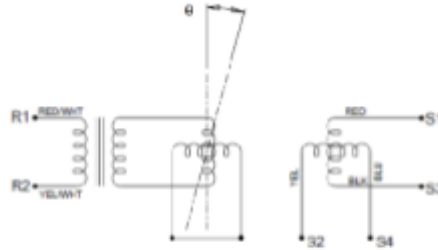

Figure 2
- **Resolvers:** Similar to encoders, resolvers are also electromechanical devices that convert mechanical motion into an electronic signal. However, unlike an encoder, a resolver transmits an analog signal rather than digital. It is essentially a rotary transformer with one primary winding and two secondary windings that are phased 90 mechanical degrees as shown in Figure 2. The resolver output requires control inputs and logic that can interpret analog signals.